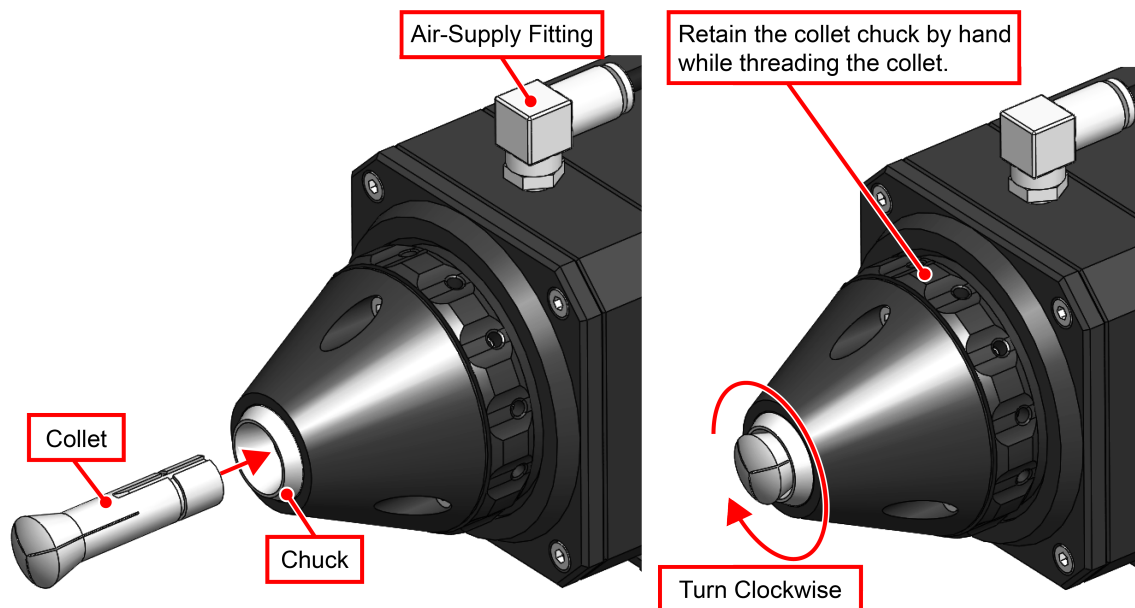

Figure 2-4: Collet Installation
- Step 2: Turn off air pressure to expose the front of collet in chuck Figure 2-4.